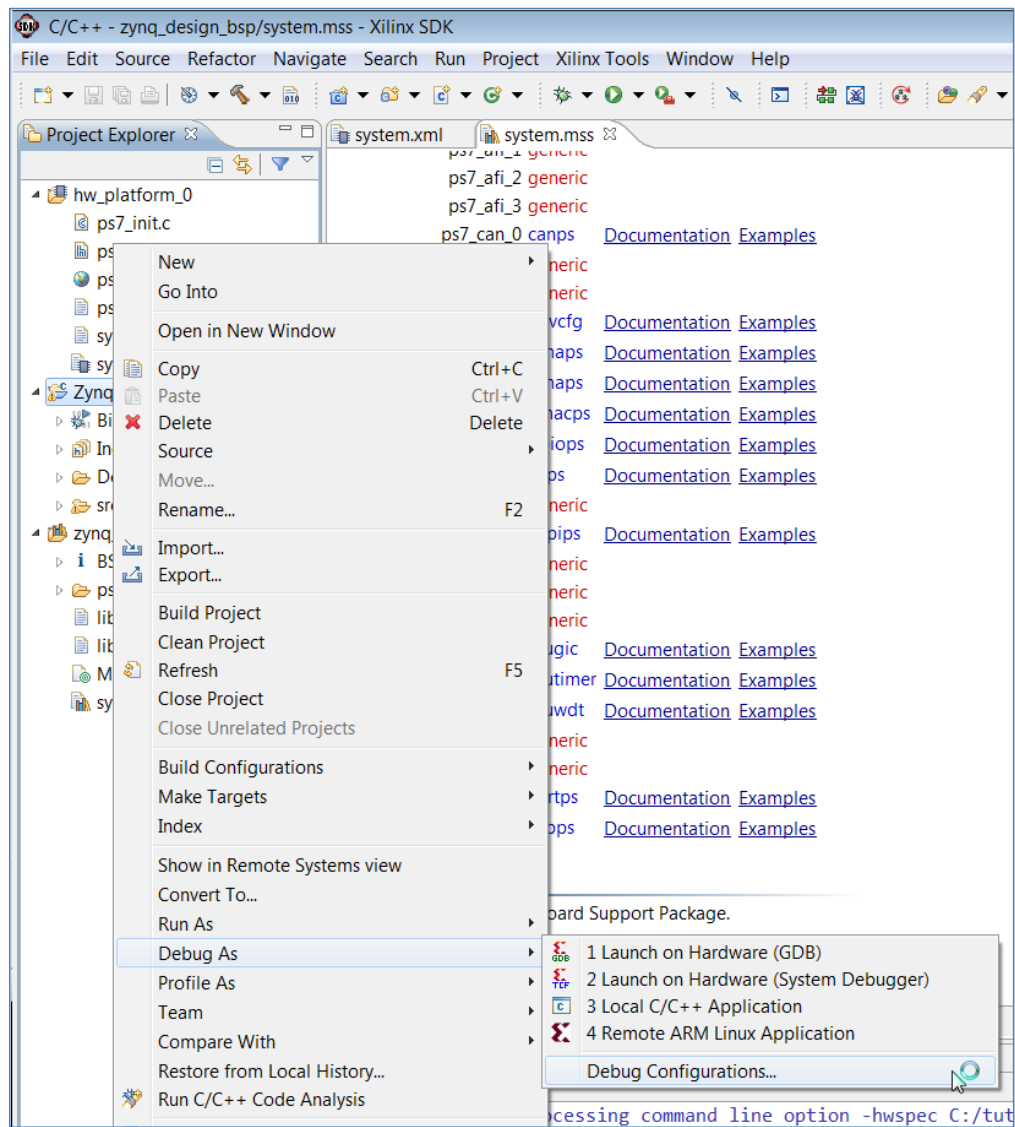

Figure 38: Launch on Hardware
4. Select **Debug As** and **Debug Configurations** (FIGURE 38).